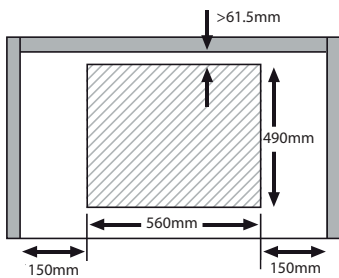

Fig. 6
3. Insert a 2.5mm screwdriver into the hole at the top of the tap and turn the adjustment screw fully clockwise as shown in fig. 6.
1. Make the required hole in the worktop. Note that before doing this, check the instructions supplied with any cooker hood to ensure that you will have the required clearance. The cut-out (Fig. 6) **shows a 61.5mm gap from the wall to the cut-out edge**. This is because the distance for the hob, when fitted, to the back wall is to be at least 50mm.